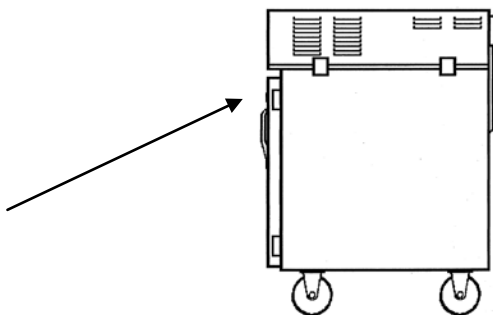

Fig. 1
6. Are **easy to clean**. (Power module lifts off.) (Fig. 1)